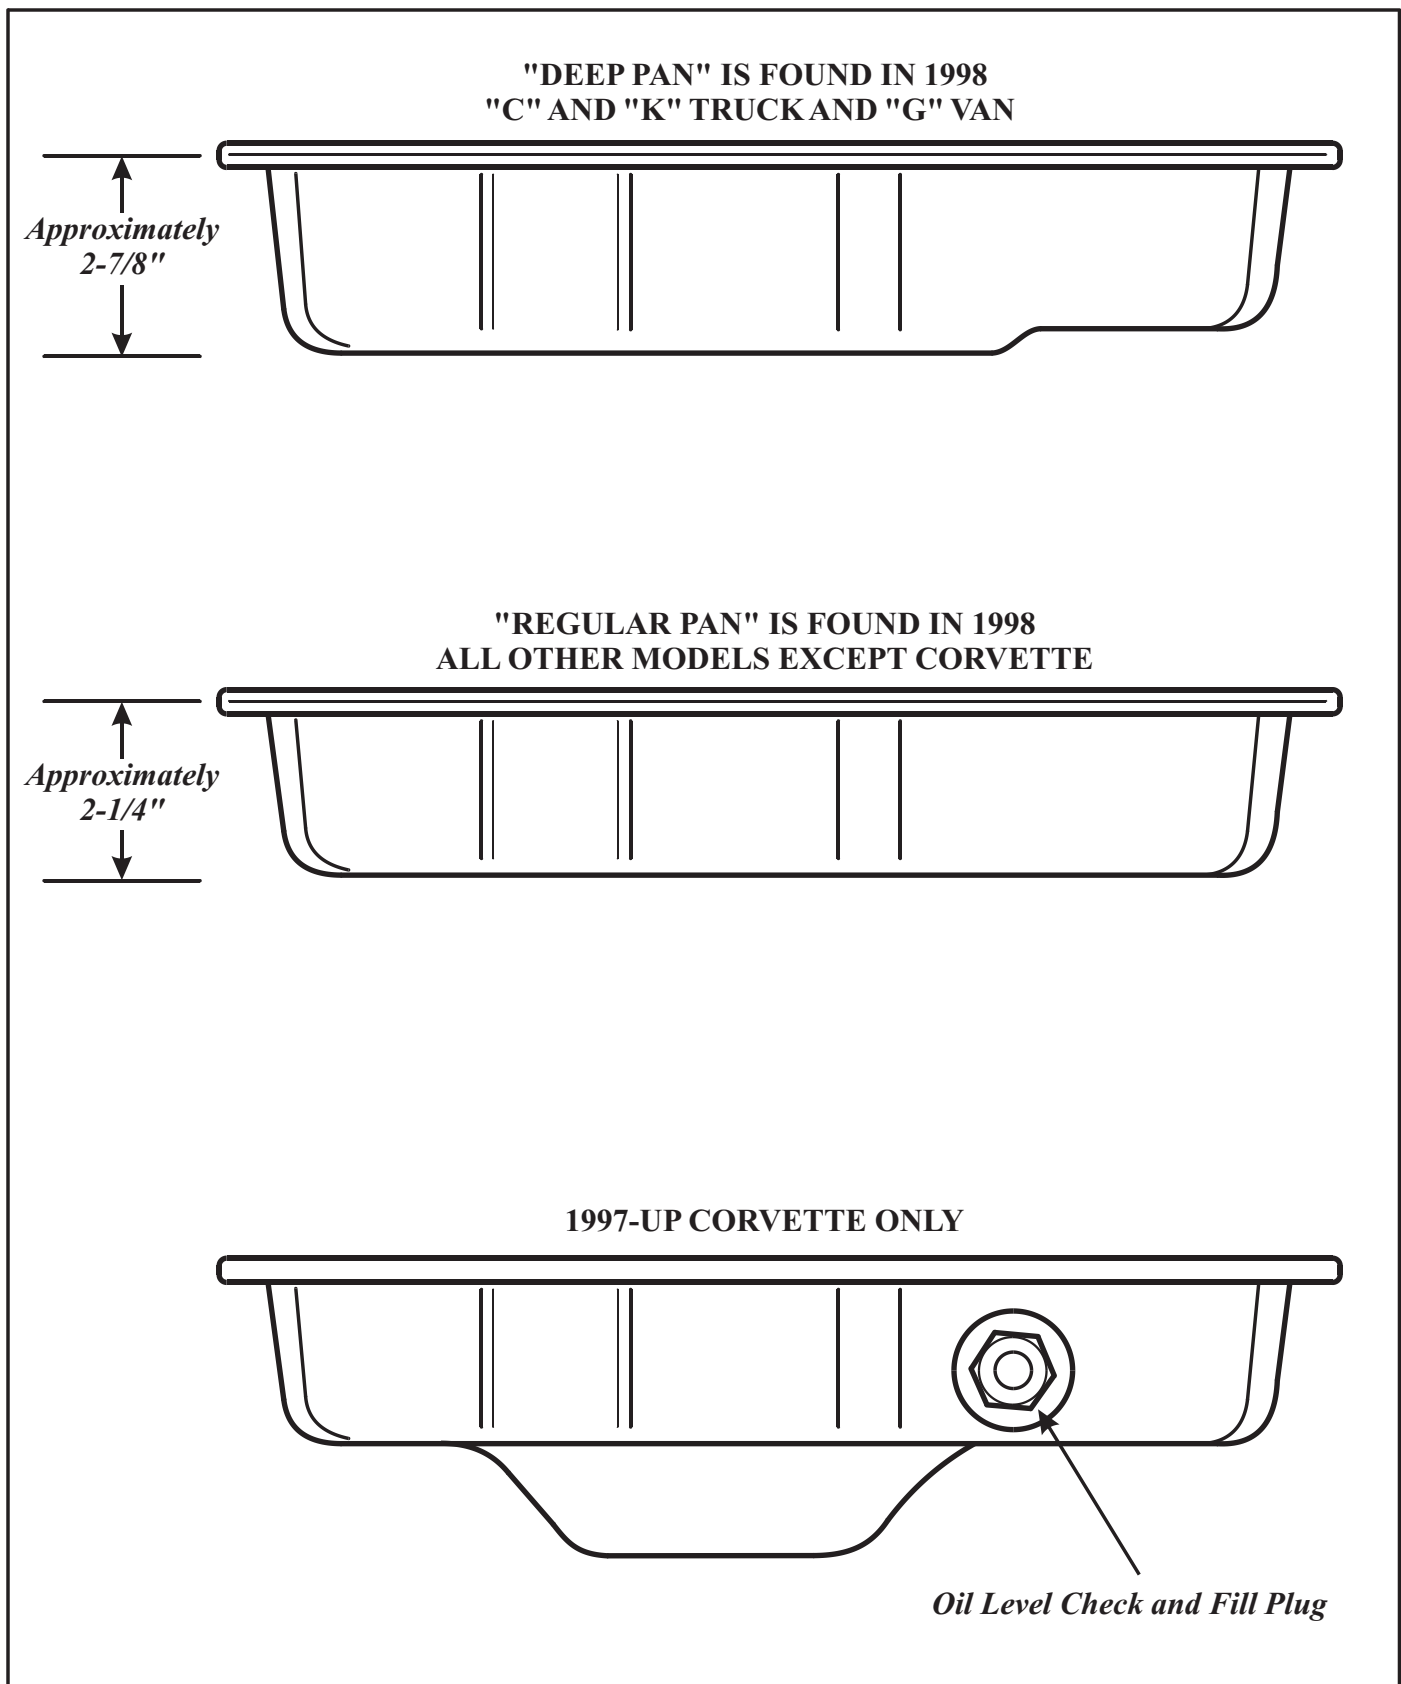

Figure 3
- (1) **BOTTOM PAN** - New design is approximately 17mm deeper than the regular pan, and all three bottom pans used in 1998 models are illustrated in Figure 3 for identification purposes.
- (3) DIPSTICK STOP BRACKET - There is a new dipstick stop bracket for regular pans with chamfered valve bodies and one specifically designed for deep pans with chamfered valve bodies (See Figure 3).